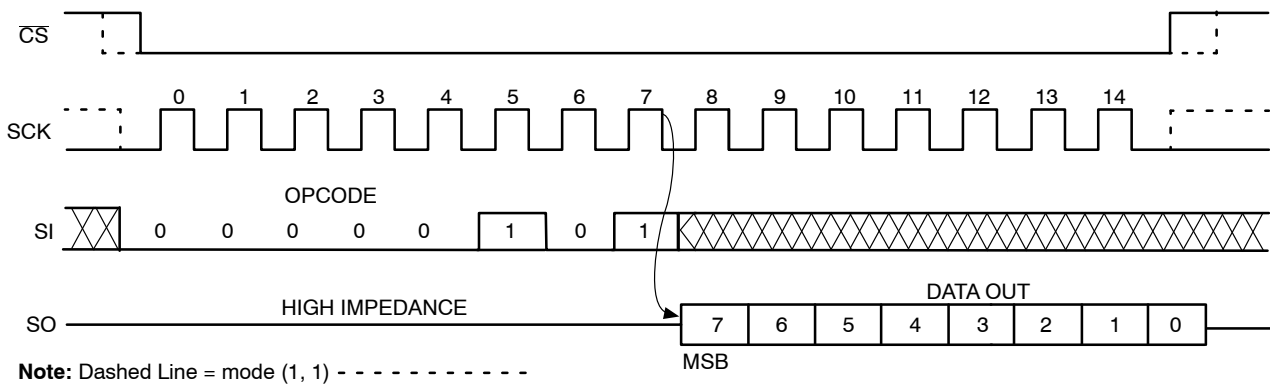

Figure 10. RDSR Timing
Reading the additional 256-byte Identification Page (IP) is achieved using the same Read command sequence as used for Read from main memory array (Figure 10). **The IPL bit from the Status Register must be set (IPL = 1) before attempting to read from the IP.** The [A7:A0] are the address significant bits that point to the data byte shifted out on the SO pin. If the CS continues to be held low, the internal address register defined by [A7:A0] bits is automatically incremented and the next data byte from the IP is shifted out. The byte address must not exceed the 256-byte page boundary.
To read the status register, the host simply sends a RDSR command. After receiving the last bit of the command, the EA2M will shift out the contents of the status register on the SO pin (Figure 10). The status register may be read at any time, including during an internal write cycle.